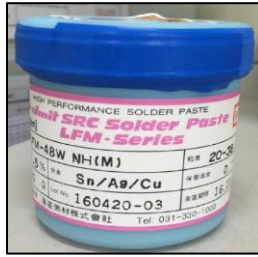

Figure 28. Recommended Solder Paste
Figure 28 shows a picture of the solder paste that we recommend. (Part Number: Hee LFM-48W NH(M) HF)